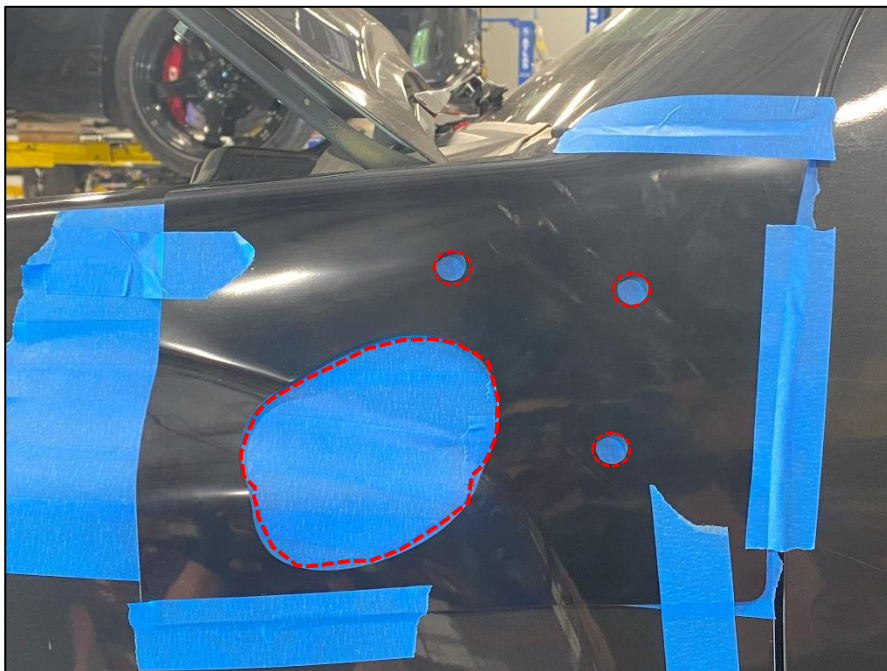

Figure 6
9. Using a marker, trace the inside of the Locating Template Holes. The Locations are marked below. *Figure 6.*